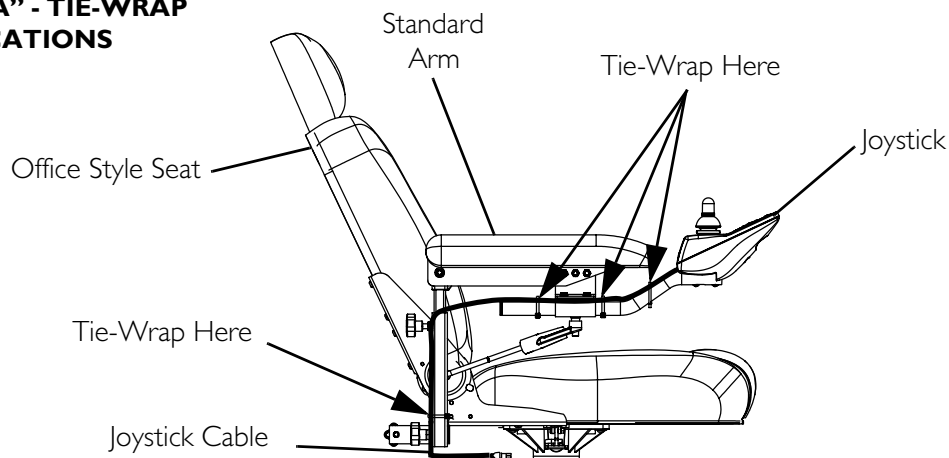

FIGURE 12.1 Removing/Installing the Joystick
NOTE: For this procedure, refer to FIGURE 12.1.
3. Loosen the adjustment lock lever to release the joystick mounting tube from the mounting bracket. Refer to FIGURE 12.1.
3. Tie-wrap the joystick cable to the arm as shown in FIGURE 12.1.